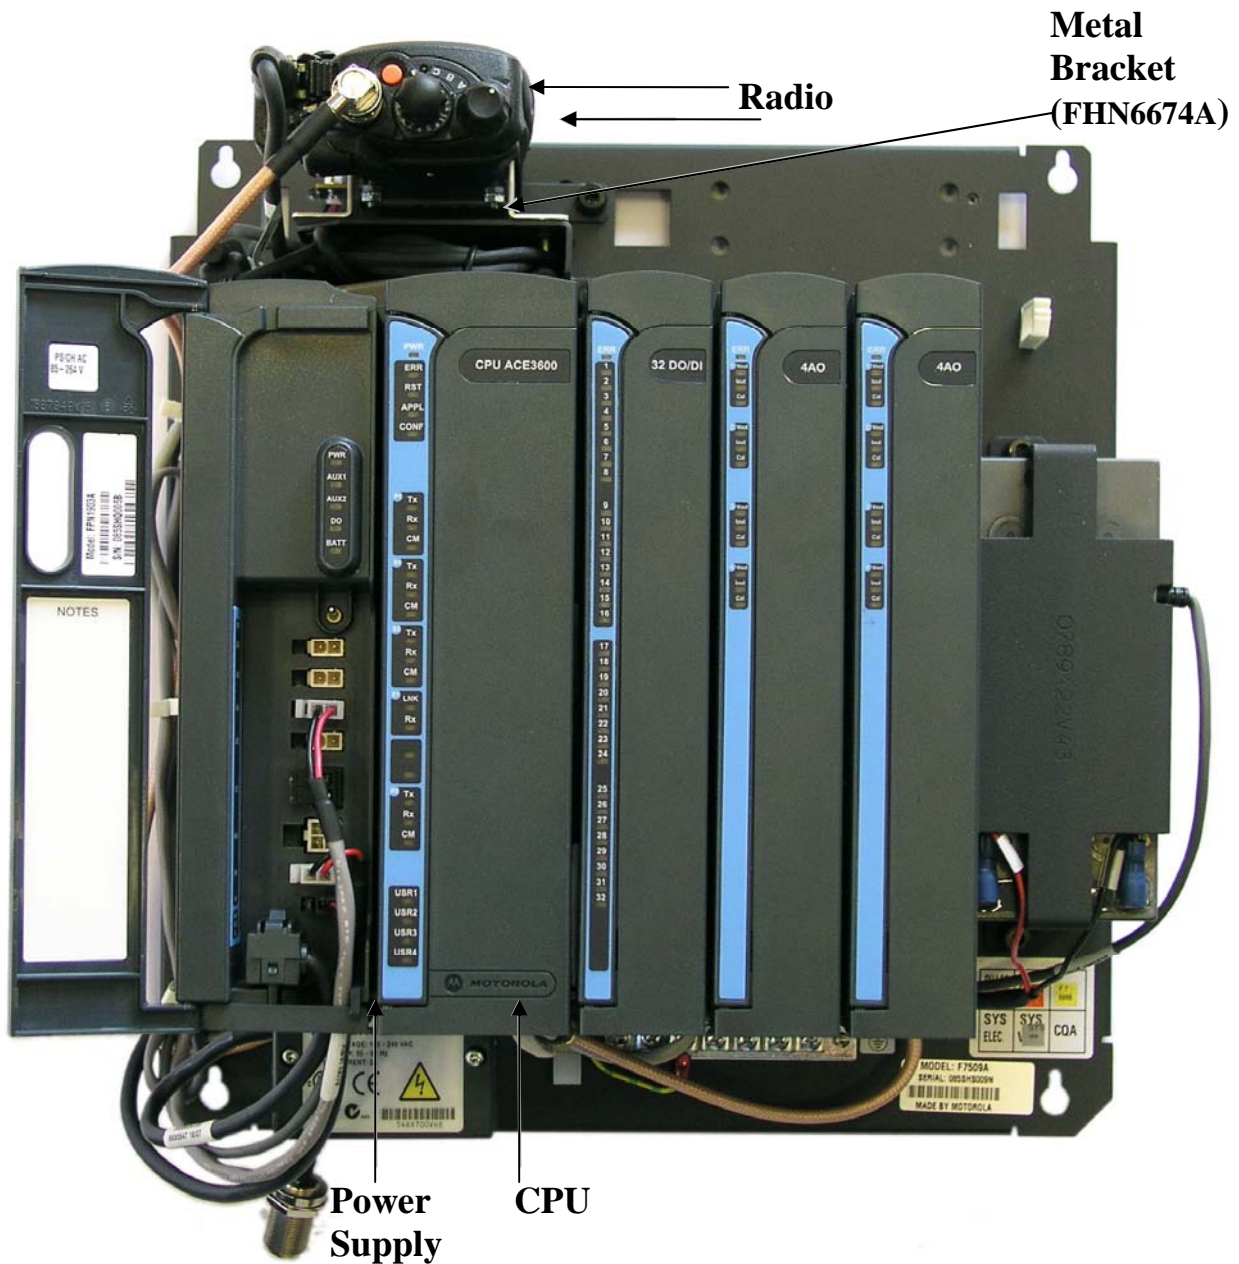
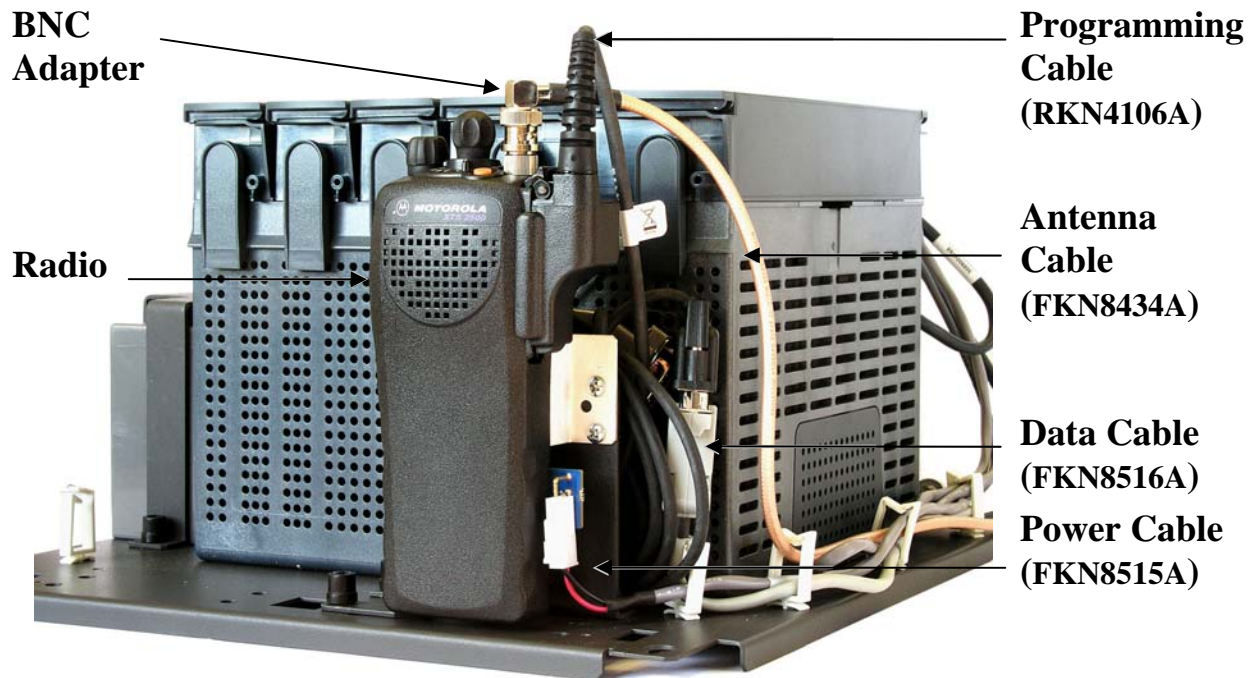

Figure 21-10 XTS2500 Radio Installed on ACE3600 Chassis
Figure 21-11 XTS2500 Radio Installed on ACE3600 Chassis - Cable Connections
2. Connect the programming cable (RKN4106A) provided with the radio to the Accessory connector on the radio. (See Figure 21-11.) Connect the other end of the programming cable to the 9-pin D-type (Radio) connector on the communication cable (FKN8516A) and tighten the screws attached to the programming cable. Do not use the 25-pin connector; it is for programming only.
4. Connect the 7.5V DC power cable (FKN8515A) to the AUX2A or AUX2B auxiliary power output connector on the RTU power supply. Connect the other end of the power cable to the DC adapter on the radio bracket (FHN6674A). (See Figure 21-10 and Figure 21-11.)
5. Add the BNC adapter (#5871143Y04) to the XTS2500 radio antenna connector. (See Figure 21-10.)
6. Attach the BNC connector of the antenna cable (FKN8434A) to the radio's BNC adapter. Route the antenna cable through the small wire clamps along the left side edge of the RTU chassis, according to the placement of the radio on the chassis. Attach the N-type connector at the other end to the opening on the bottom of the RTU housing using the supplied locking washer and nut. (See Figure 21-10.)
8. Mount the metal bracket on the RTU chassis above the I/O modules, using the three built-in screws, with the bottom of the radio towards the chassis. (See Figure 21-10.)
5. Detach the metal bracket (#0789422V40 from FHN6674A) by unscrewing the four radio screws (#0310906A67), two on each side. (See Figure 21-10.)